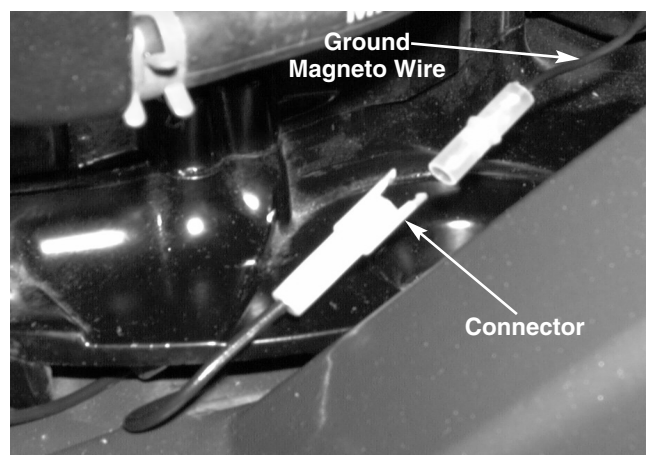

FIGURE 7.
4. Disconnect the ground magneto wire connector. See figure 7.